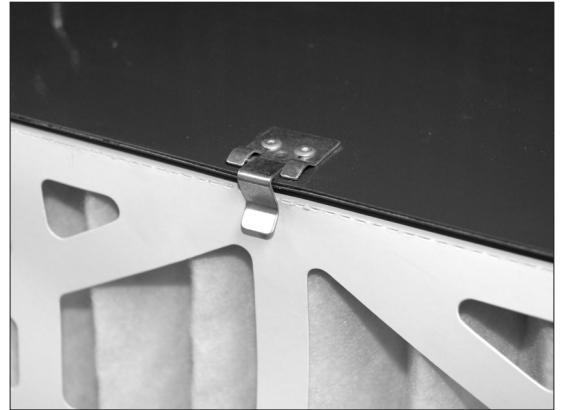

Fig 5
- There are two filters that need to be cleaned and / or changed. The outer filter can easily be removed by disengaging the two clips (Fig 5).